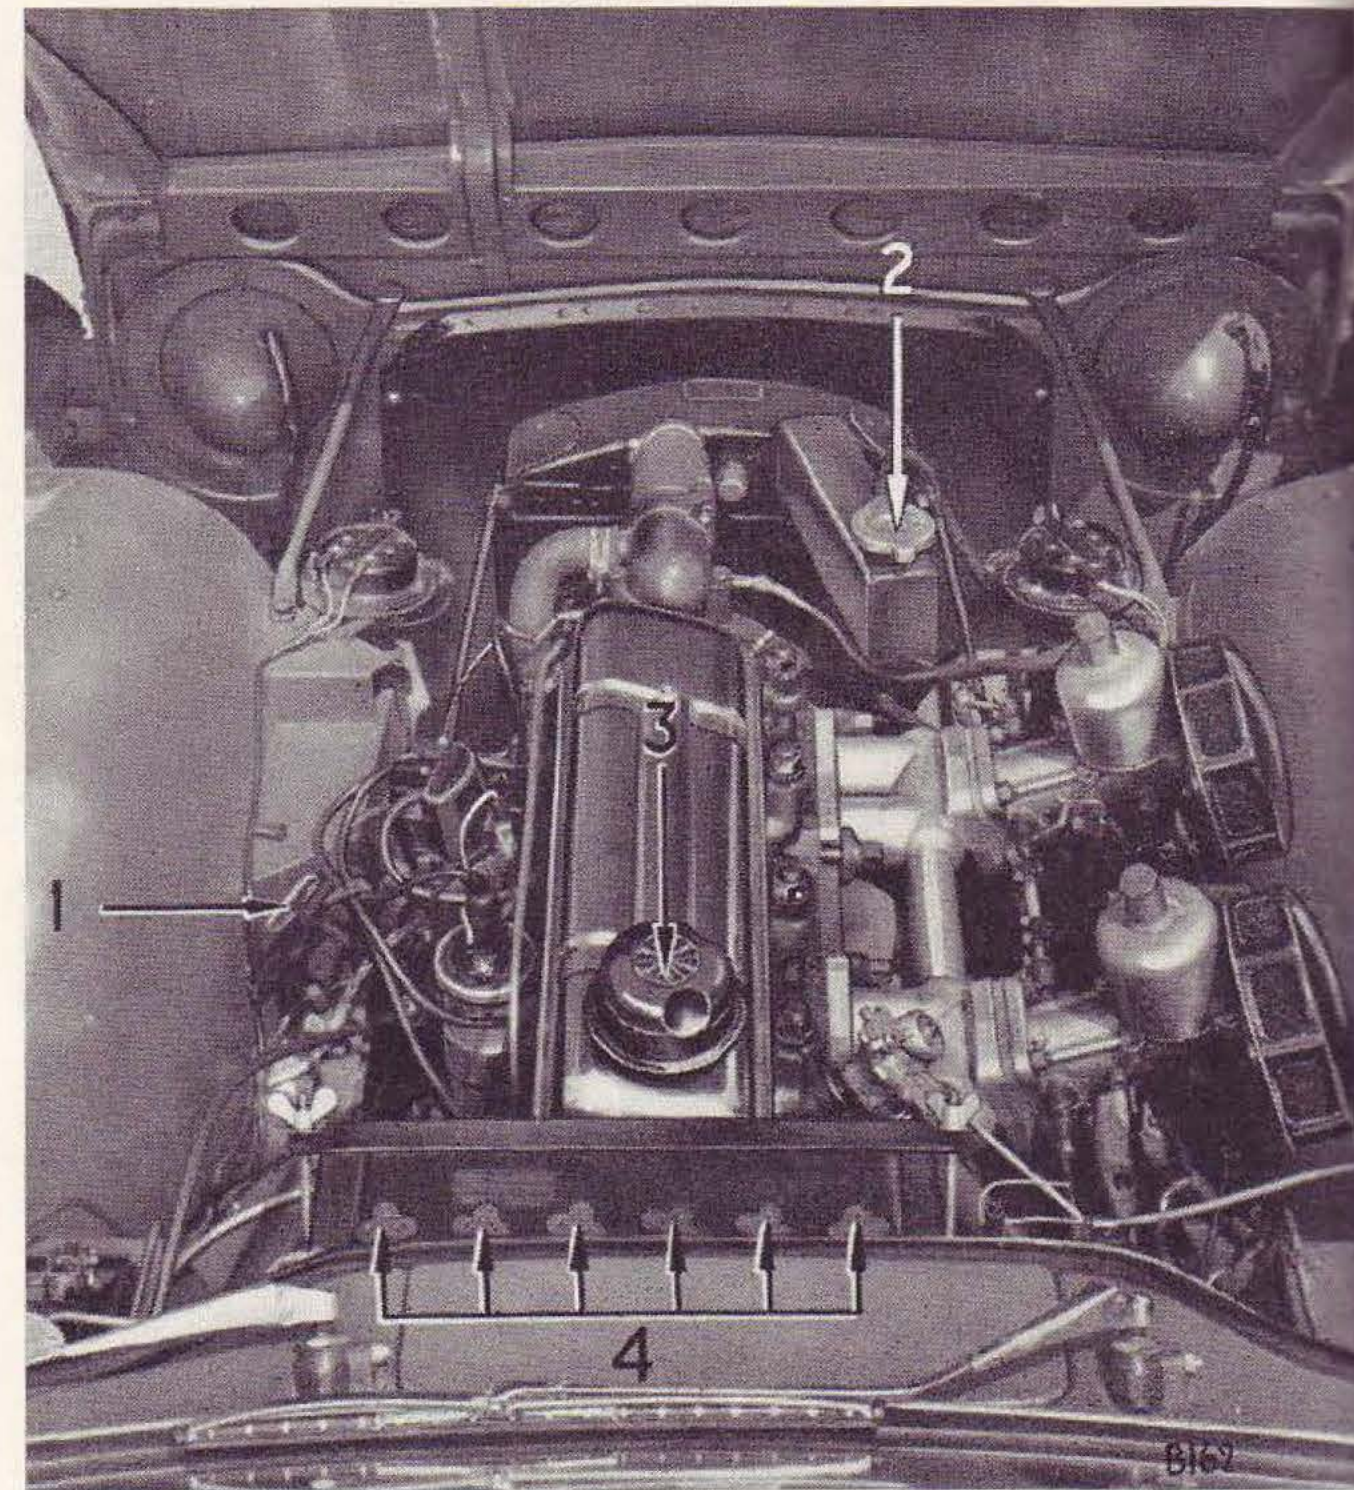

Fig. 13
Examine the level of the electrolyte in the cells and, if necessary, add distilled water via the plugs (4) Fig. 13, to bring the level up to the top of the separators.
Oil Filler Cap (Fig. 13)